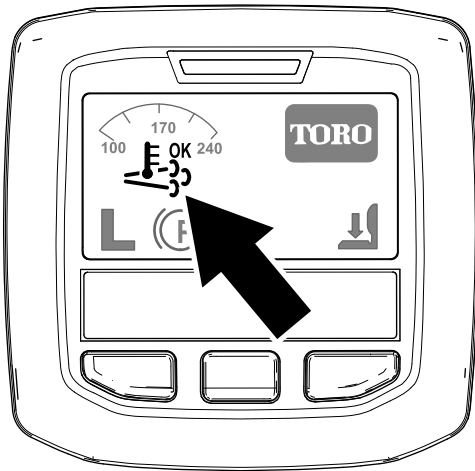

Figure 45
- The assist/reset-regeneration icon displays in the InfoCenter (Figure 45).